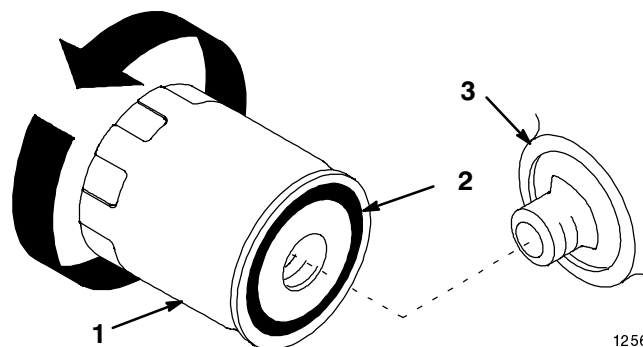

Figure 32
6. Change oil filter. (Fig. 32).
- Remove the old filter and wipe the filter adapter (Fig. 32) gasket surface.
- Apply a thin coat of new oil to the rubber gasket on the replacement filter (Fig. 32).
- Install the replacement oil filter to the filter adapter. Turn the oil filter clockwise until the rubber gasket contacts the filter adapter, then tighten the filter an additional 1/2 turn (Fig. 32).